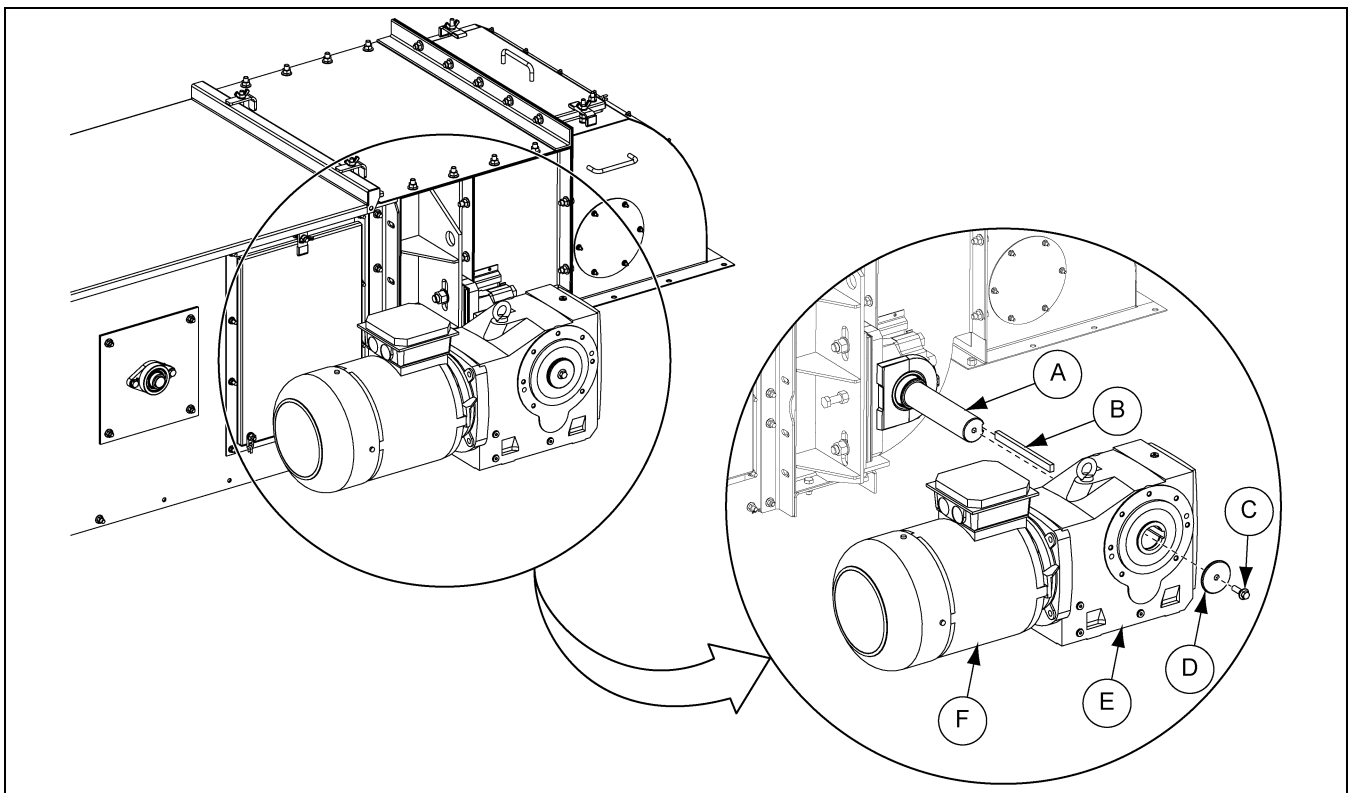

Figure 5B *Installing the Reducer to the Drive Shaft*
1. To aid in the installation of the reducer onto the shaft (A), remove any protective coating film from the shaft (A). *(See Figure 5B.)*
2. Place key (B) in the keyway on the drive shaft (A).
3. Line up the keyway on reducer (E) with key (B) on shaft and slide the reducer drive onto the drive shaft (A).
4. Slide the washer (D) onto shaft and secure using the bolt (C). Once reducer drive is in place, fully tighten the bolt (C). *(See Page 47 for more details.)*